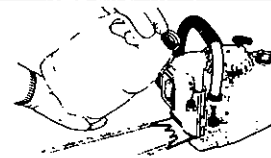

Figure 15
- b. Turn saw on its side with oil cap up. Figure 15.
\*Allow engine to warm-up (1-2 min.) on half-choke, then move choke to the "Off" position. Do not cut with the choke at the "On" or "Half" position. Figure 15.